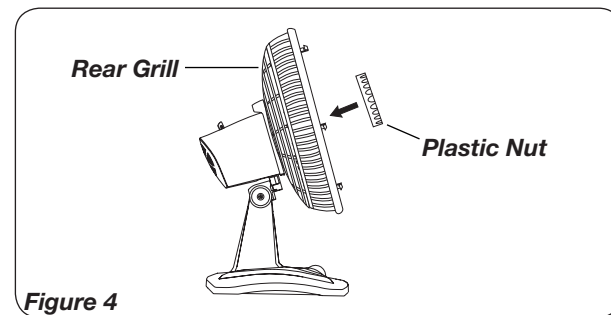

Figure 4
4. Fully seat **Rear Grill** and secure with **Plastic Nut** turning **CLOCKWISE**. (Figure 4)